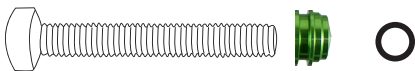

Fig 1
- Screw the extreme shock end cap onto the tool. (Fig. 1)